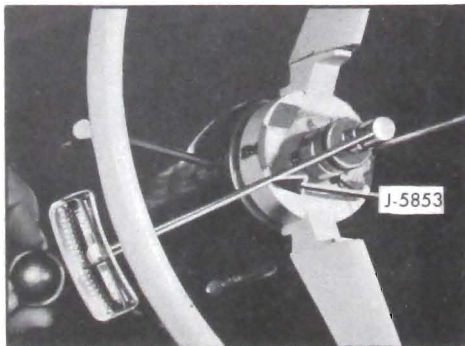

Figure 8-38—Checking Adjustments in Car
4. Turn steering wheel to extreme right or left position. Attach torque wrench J-5853 to steering wheel retaining nut and check the torque required to turn the wheel steadily in the range where lash normally exists between rack-piston nut and pitman shaft sector. See Figure 8-38. The lash range exists for one-eighth turn of steering wheel from either extreme position.